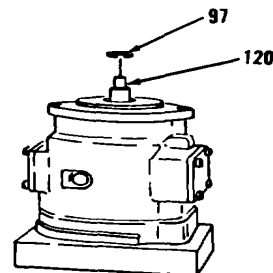

Figure 10-34.
- 46. Remove ring (97) from shaft (120, Figure 10-34).